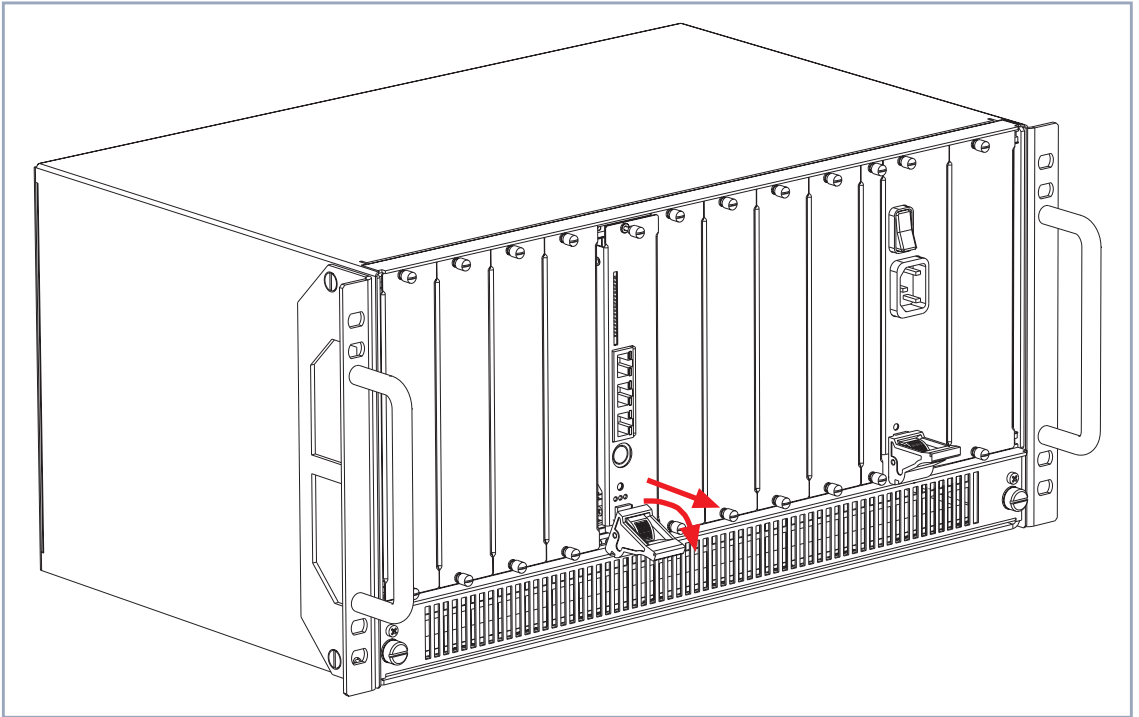

Figure 4-7: Removing an expansion card, step 2
- Push the injector/ejector handle further down until the expansion card comes out of its position (see figure 4-7, page 41).